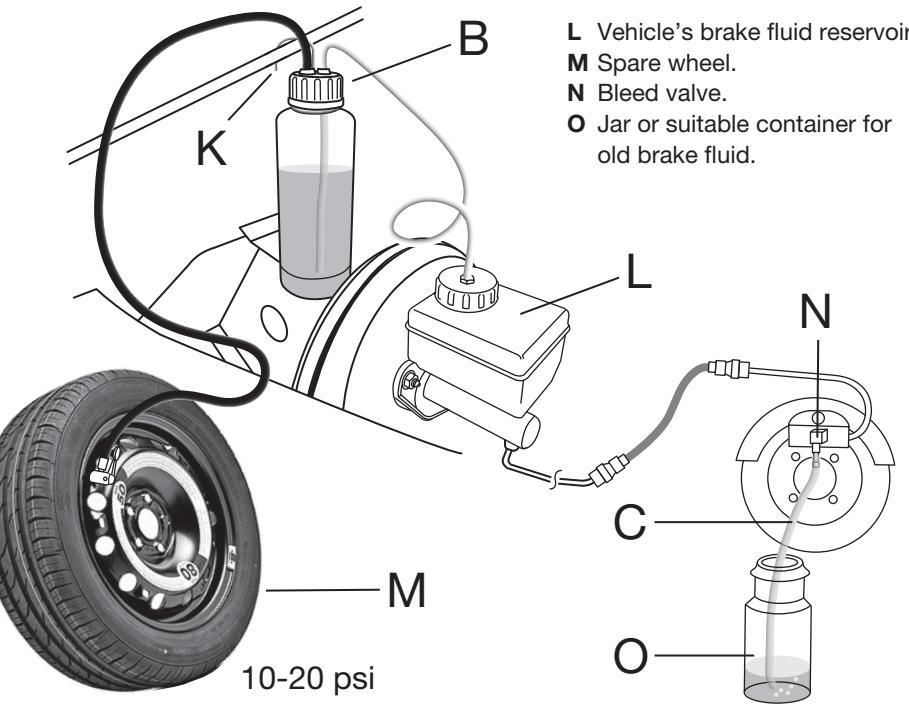

Figure 2
5. Replace the pressure vessel into the system placing it so that it will remain vertical and can not be disturbed during bleeding (Figure 2).
7. Connect the bleed tube (C) to the bleed nipple furthest from the master reservoir (as in the sequence usually found in the handbook).